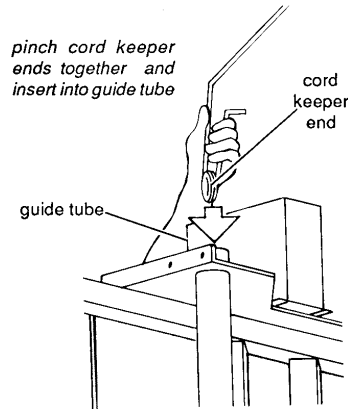

Figure 10: Installing the Cord Keeper
1. Pinch the ends of the cord keeper together as shown in Figure 10 while you slowly slide the ends into the guide tubes. Seat the ends securely.